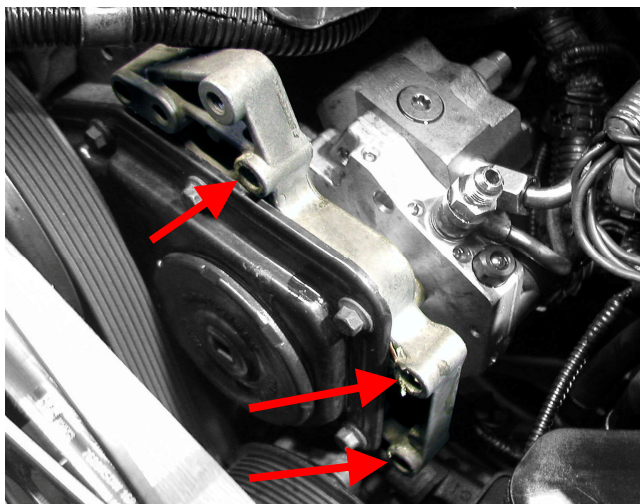

Figure 3 - Timing Cover Bolt Holes
8. Loosely install the pump support bracket (#5, Figure 1) into the front side of the timing bracket (Figure 3) using the 3/8" hardware included. This will be used later when installing the pump and bracket.